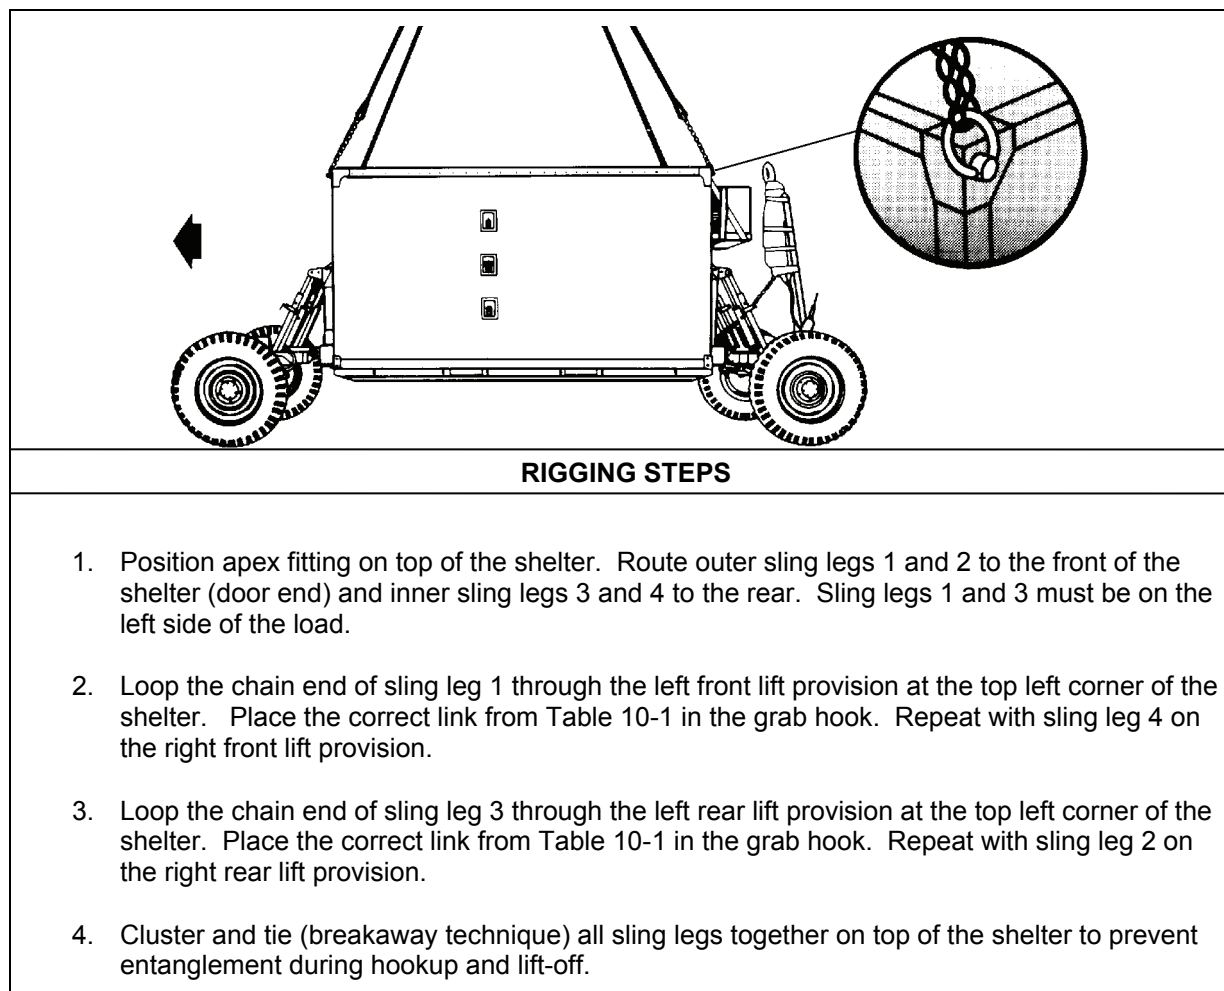

Figure 10-1. Electronic Shops
- **Rigging.** Rig the load according to the steps in Figure 10-1.